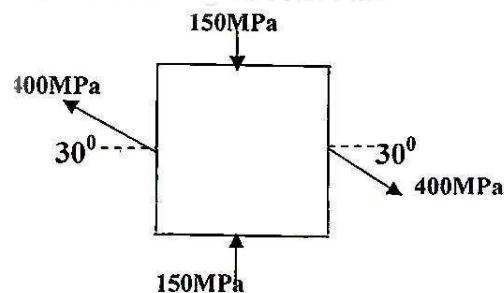

Fig. 13
10. (a) At a section in a strained material, the stresses on two mutually perpendicular planes are as shown in Fig. 13. Find stresses and maximum shear stress. [8]